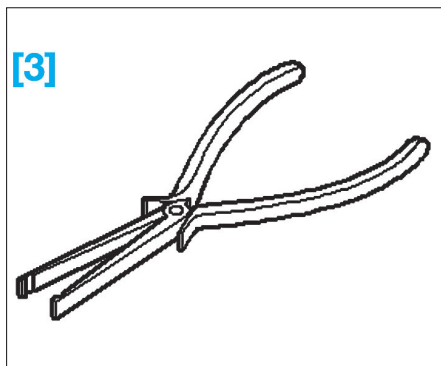

FIG. 62
- [3]. Pince ref. 3314 (Fig.62)